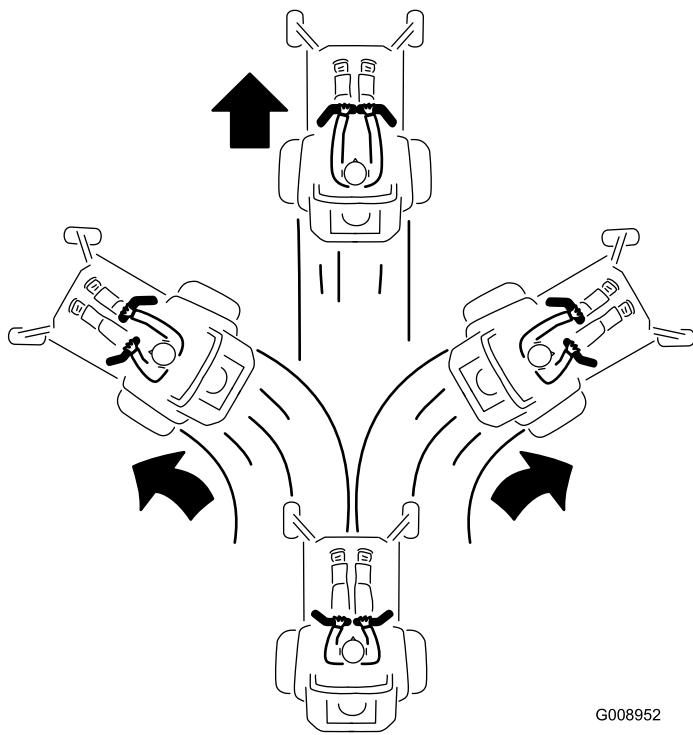

Figure 28
3. To go forward, slowly push the motion-control levers forward (Figure 28).